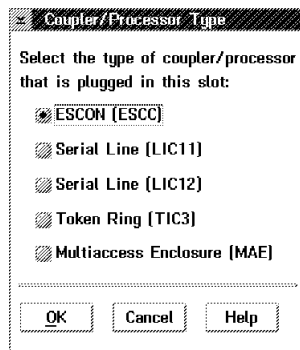

Figure 4-3. CCM Coupler/Processor Type Window
- Step 3.** When completed, click on **OK** → **Coupler/Processor Type** window (see Figure 4-3).
If this is the first time the coupler is to be configured, but it isn't the very first one to be configured, **double click on the icon of the coupler you want to configure, choose its DLC type (see Figure 4-3 on page 4-2), and go to "Configuring the ESCON Port Parameters"** .